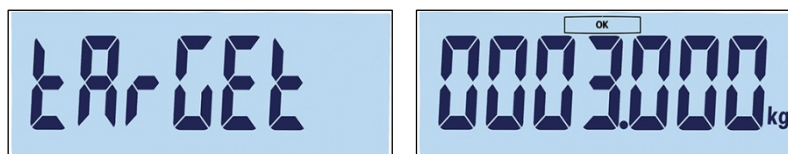

Figure 3-47: Target Label and Setting Screens
- Once the record number is confirmed by pressing , the **target** screen will appear briefly, and then the target editing screen (Figure 3-47).